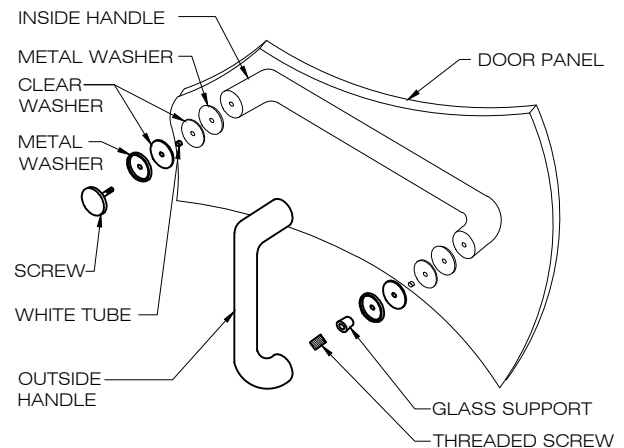

FIG.12
1. Assemble the door handles (#13) to the door (#14). [SEE FIG.12]